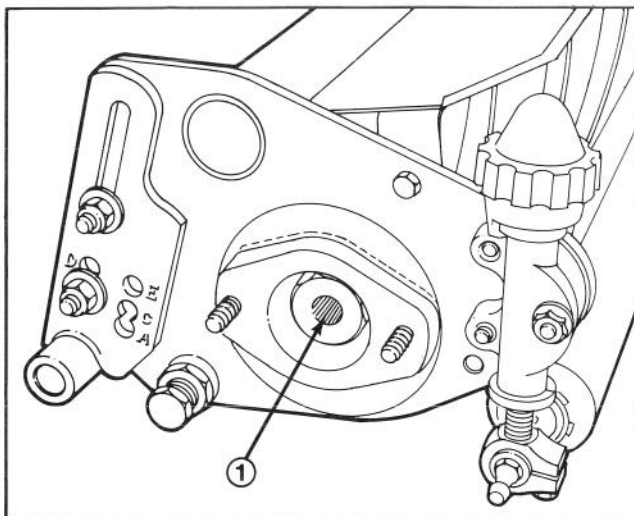

Figure 5
4. Using a 1-1/4" socket wrench replace the right side splined nut with the new splined nut supplied with the Grooming Reel Kit (Fig. 5). Torque the new nut to 45 to 55 ft. lbs. Check to see that the drag on the reel bearings is 7 to 11 in. lbs. (refer to cutting unit operator's manual for drag setting procedure).